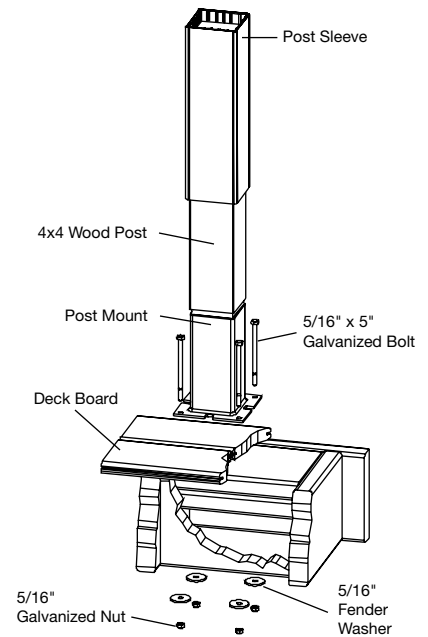

Figure 8
12. Fasten the four bolts underneath the reinforcement boards with the 5/16" Fender washer (included in kit) and 5/16" galvanized hex nuts (Figure 8).